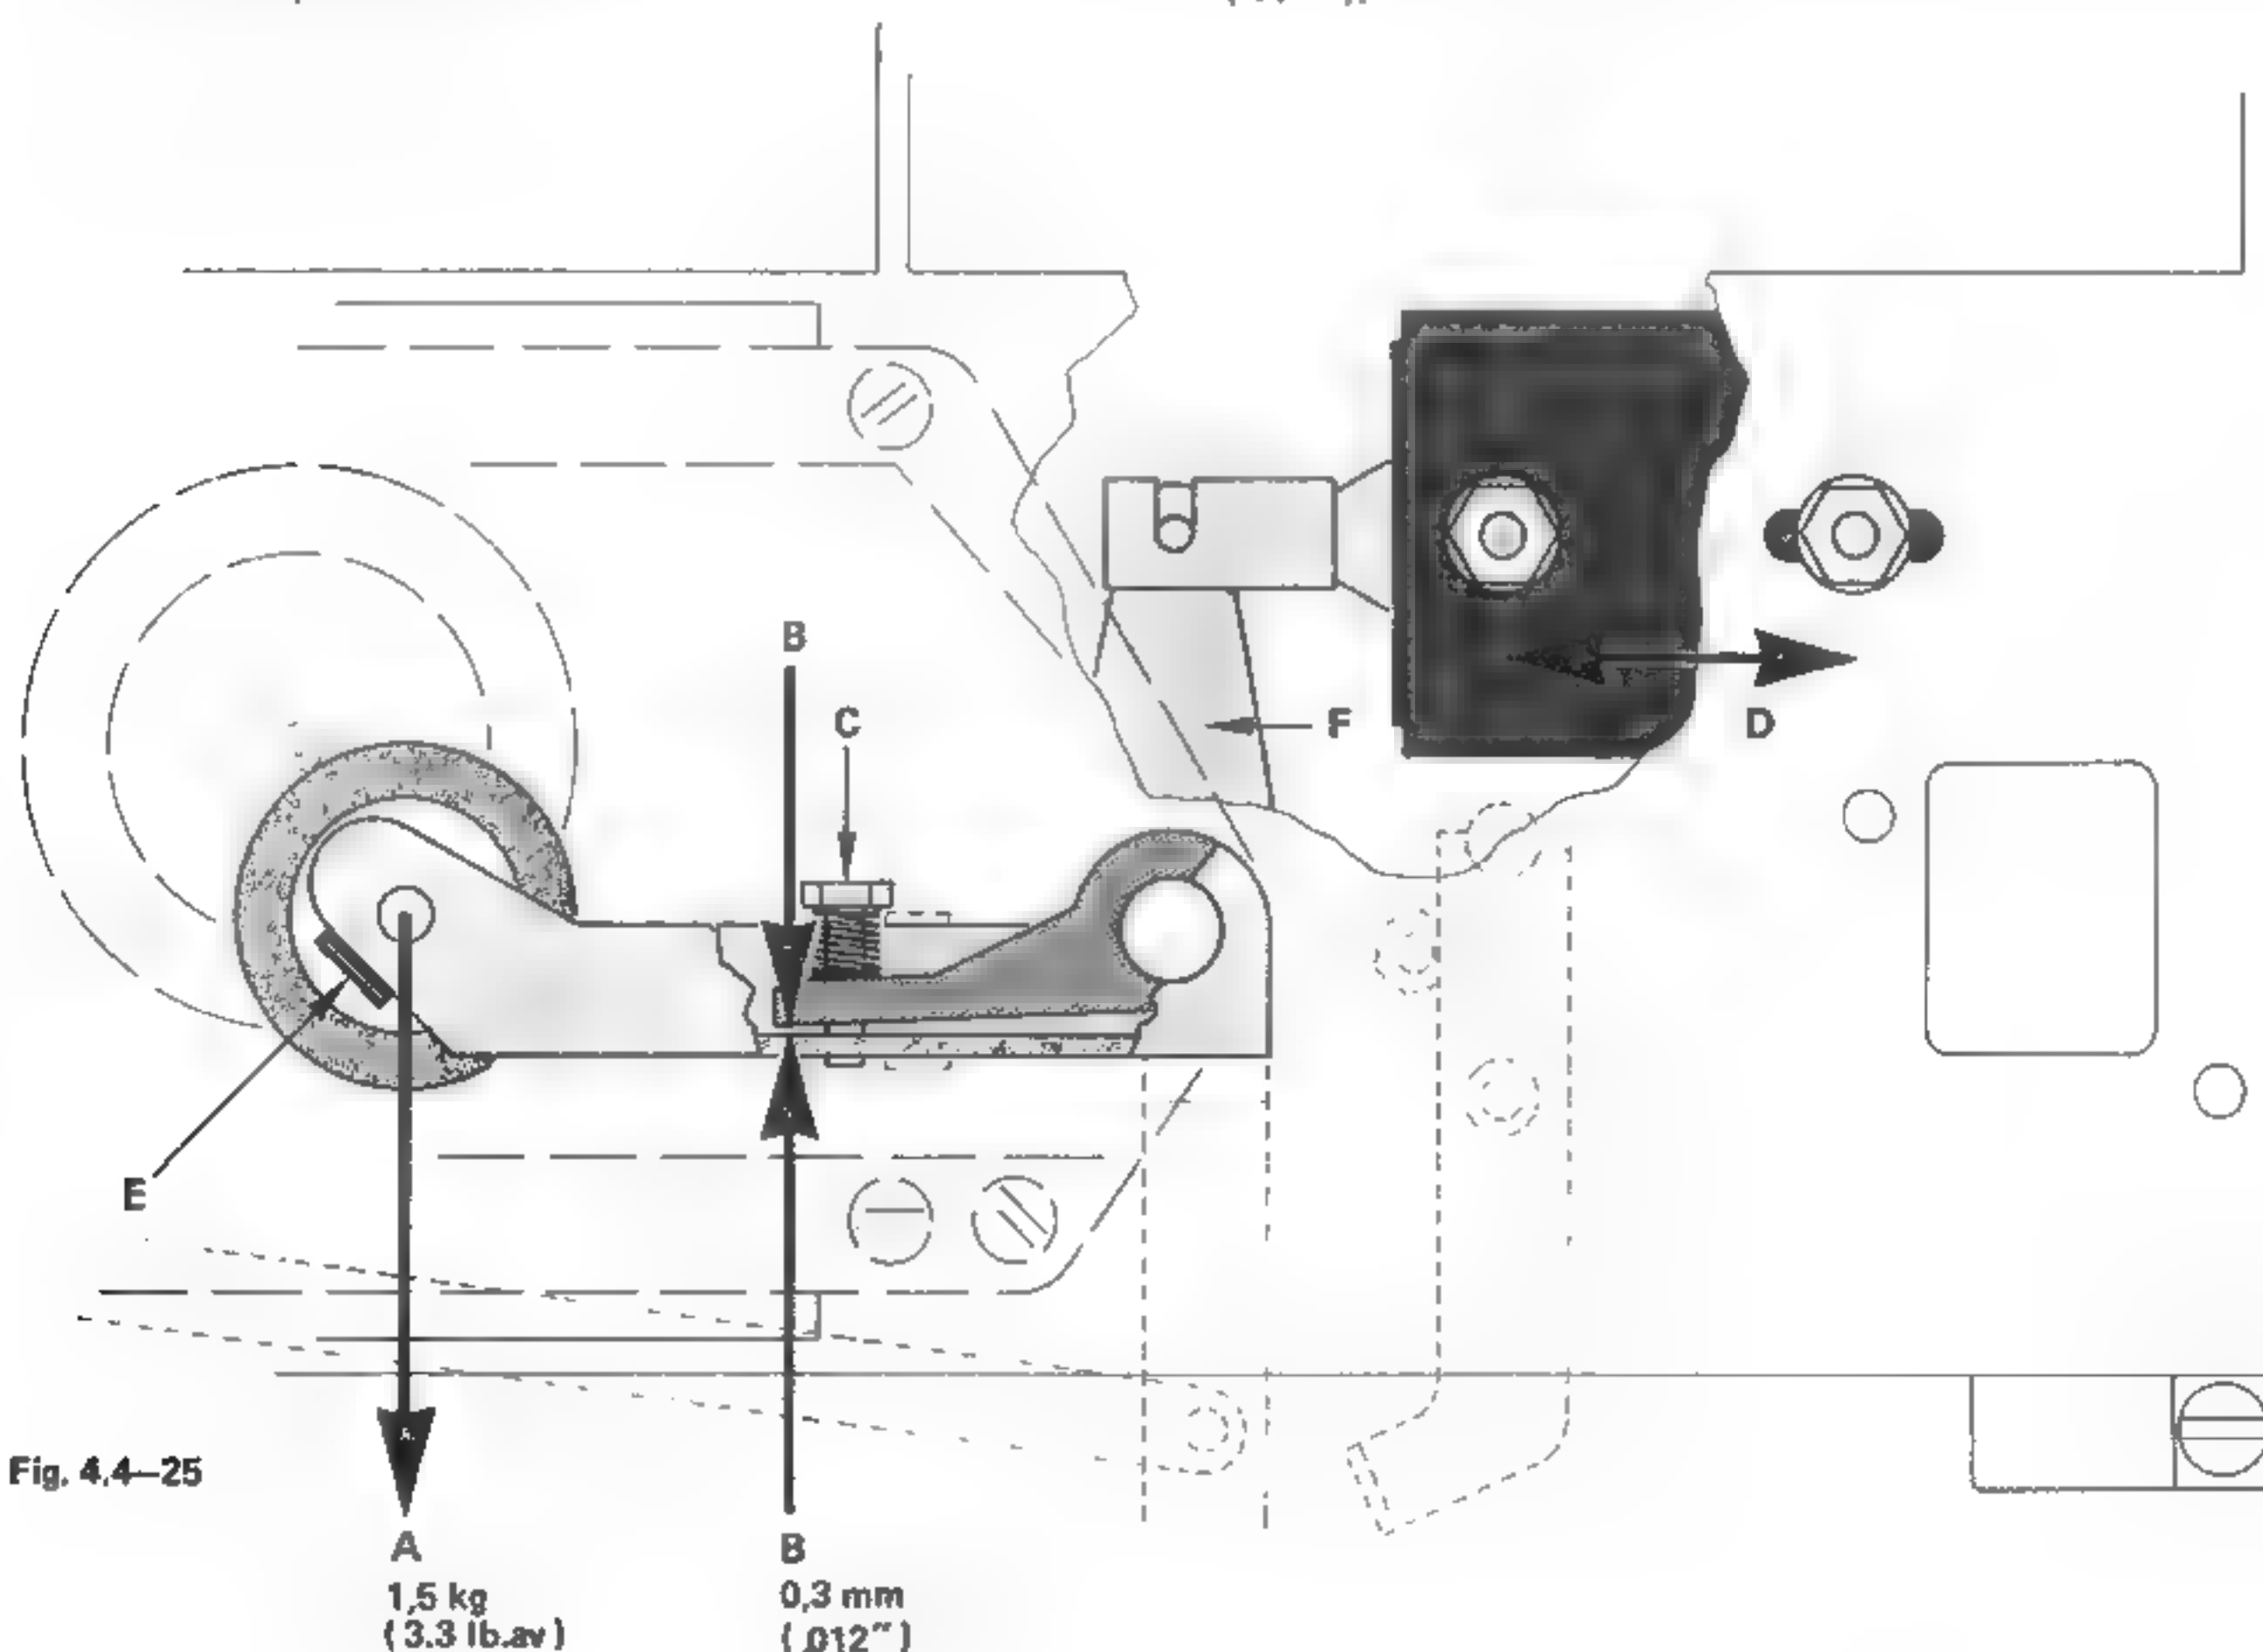

Fig. 4.4–25
The pressure lever is actuated electromechanically. Pressure is set by the variable spring force (fig. 4.4 –25).
- Slide pressure solenoid to the right gap B (fig. 4.4–25) is .3 mm (.012")
- Hold pressure roller axis at groove from above (fig. 4.4 –25) and remove bolt fastening E to the side.
After exchanging the pressure lever, it is necessary to readjust it with respect to lever F (fig. 4.4 –25). When the lever is stopped (solenoid core fully out), the distance between capstan axis and pressure roller shall be 10 mm (.4").